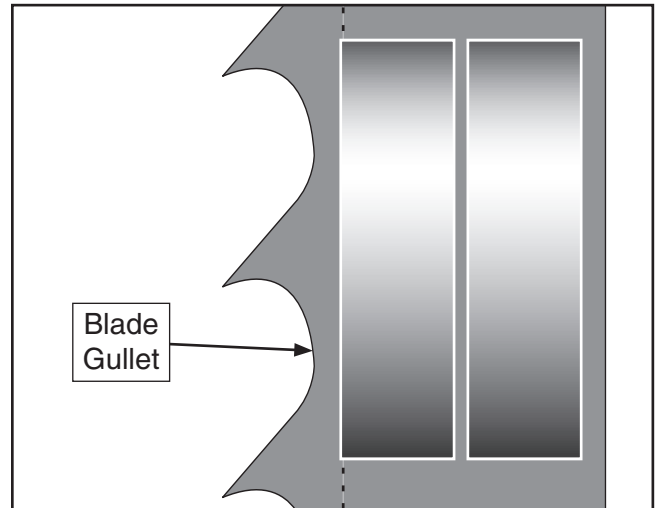

Figure 46. Lateral adjustment of blade guides.
4. Loosen the lateral adjustment rod bolt, loosen the support bearing adjustment shaft bolt, and adjust the blade guides until the edges of the bearings are $\frac{1}{16}$ " behind the blade gullets, as illustrated in **Figure 46**.